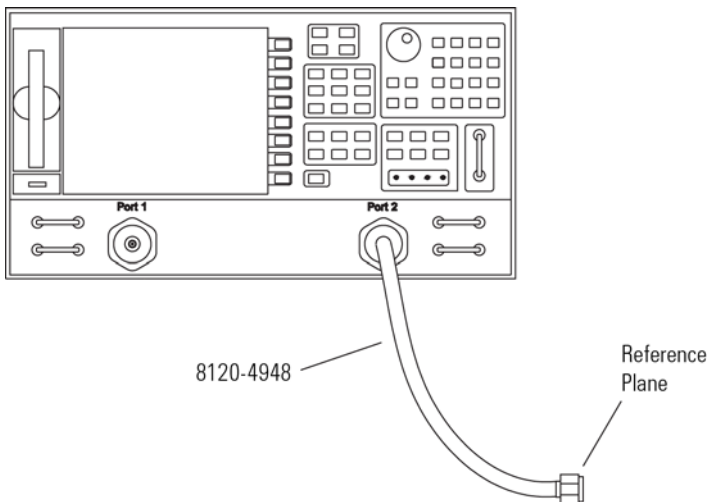

**Figure 210 PV Fixture Connected to VNA**
- 10** Connect one of the high quality SMA cables from the VNA's **Port 1** to the pincher side of PV Fixture as shown in Figure 210. The figure also identifies the calibration reference plane.